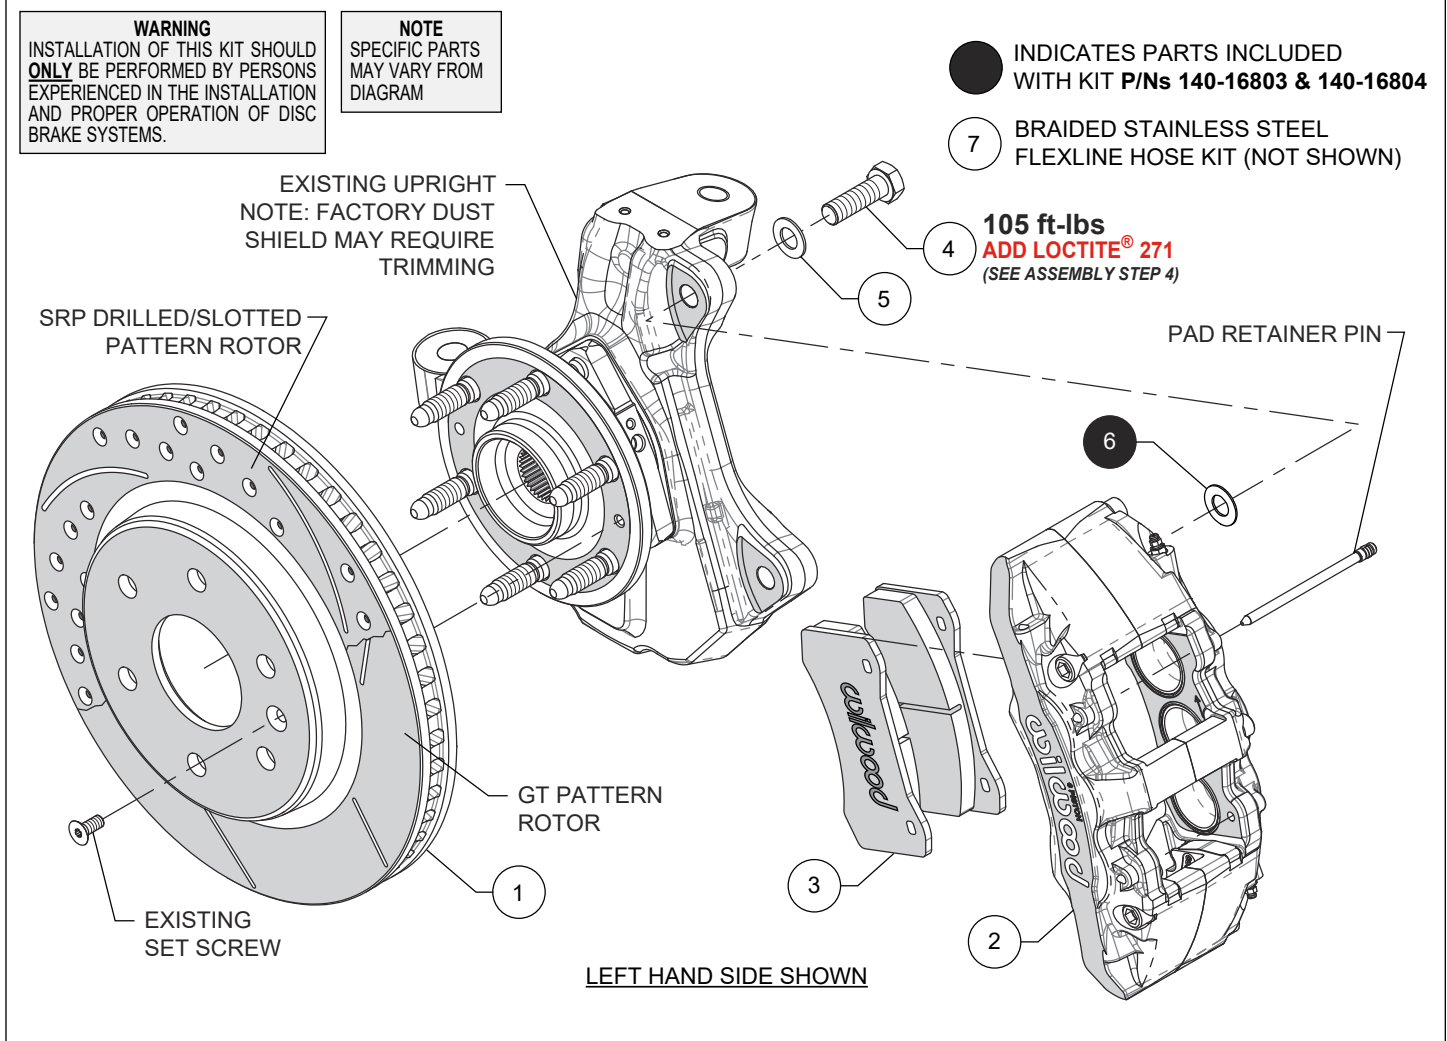

Figure 1. Typical Installation Configuration
Numbers in parenthesis refer to the parts list and Figure 1 on the preceding pages.
STEP 1 Slide the rotor (1) onto the hub. **NOTE:** The rotor must fit flush against the hub flange or excessive rotor run out may result. Install the OEM set screw to keep the rotor in place while continuing with the installation, Figure 1 and Photo 1.
STEP 2 This step for 1999-2006 GM 1500 (p/n 140-16803) and 2007-2018 GM 1500 (p/n 140-16804 only): Initially place one .029" thick shim (6) on each bolt (4) between the caliper (2) and the OEM caliper mounting bosses, Figure 1. Temporarily tighten the mounting bolts and view the rotor (1) through the top opening of the caliper. The rotor should be centered in the caliper, Photo 2. If not, adjust by adding or subtracting shims (6) between the bracket and the caliper. Always use the same amount of shims on each of the two mounting bolts. Once the caliper alignment is correct, remove the mounting bolts and caliper.
STEP 3 Remove the two pad retaining pins from the caliper (2). Insert the brake pads (3) into the caliper, with the friction material
facing the rotor. Secure the brake pads in place with the pad retaining pins, Figure 1 and Photo 3. **CAUTION:** Ensure pad retaining pins are completely engaged into caliper, Photo 4. It is recommended to use a small flat punch and hammer to tap the pins in until they are fully seated.
STEP 4 Mount the caliper (2) onto the OEM caliper mounting bosses using bolts (4) and washers (5), as shown in Figure 1 and Photo 5. Apply red Loctite® 271 to bolt threads, and torque to value shown in Figure 1.
STEP 6 Attach brake line to caliper. **NOTE:** OEM rubber brake hoses generally cannot be adapted to Wilwood calipers. Install Wilwood's stainless steel braided flexline hose kit (6) that is included with this kit. See below for more info on flexline kits.